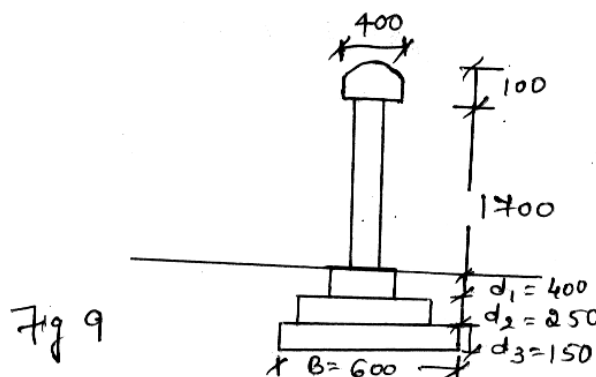

Fig 9
- 9. Design a compound wall of height 1.8 m upto the top of the coping as shown in Fig. 9. Assuming wind pressure is 1000 N/m^2 distributed uniformly. The safe bearing capacity of soil = 120 kN/m^2 .